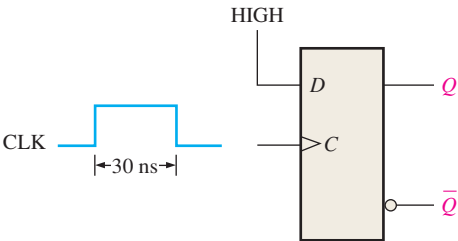

FIGURE 7-88
22. The flip-flop in Figure 7-88 is initially RESET. Show the relation between Q output and the clock pulse if the propagation delay t_{PLH} (clock to Q) is 5 ns.